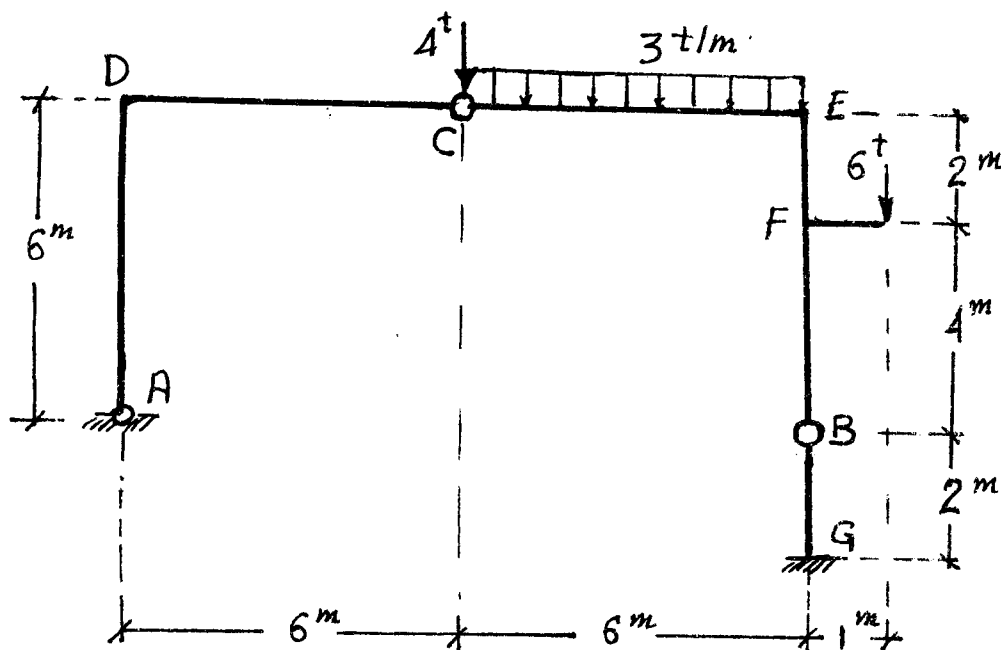

Fig. 3
- a. A steel bar of length 60 cm and cross section dimensions $4 \times 4 \text{ cm}$ has been placed to fit exactly inside a hollow copper bar of the same length, of outer dimensions $8 \times 8 \text{ cm}$ and inner dimensions $4 \times 4 \text{ cm}$ as shown in Fig. 3. The modulus of elasticity for The modulus of elasticity for the steel (E_s) and copper (E_c) are 2000 and 1500 t/cm^2 , respectively. The length of the steel bar is shorter than the copper bar by 0.010 cm. Find the deformation of the steel-copper assembly when it is subjected to 20 tons compression force applied on a rigid end plate.
3. For the compound frame shown in Fig.3, draw the straining action diagrams.